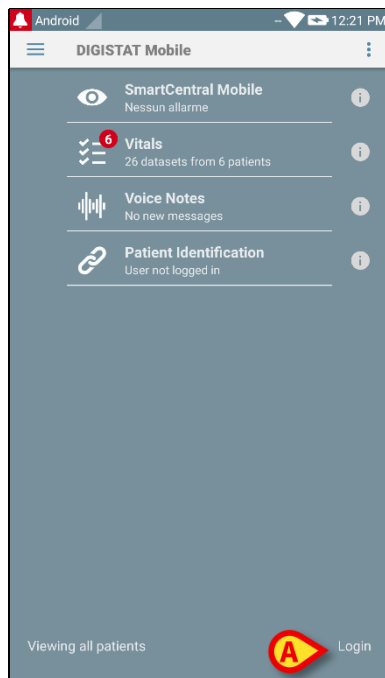

Fig 12
- Touch **Login** on the lower-right corner of the “Applications list” screen (Fig 12 **A**)